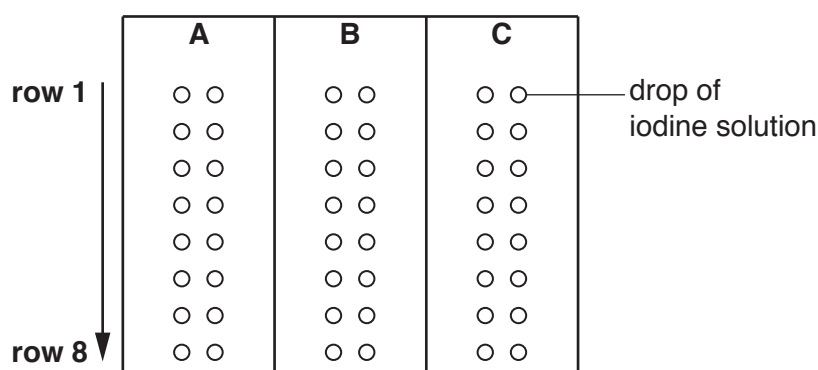

Fig. 1.1
- Step 6 Use a marker pen to divide a dry white tile into three sections and label them **A**, **B** and **C** as shown in Fig. 1.1.
- Step 7 Drop iodine solution onto the tile to form two rows of 8 drops approximately the same distance apart, in each of the sections **A**, **B** and **C** as shown in Fig. 1.1.